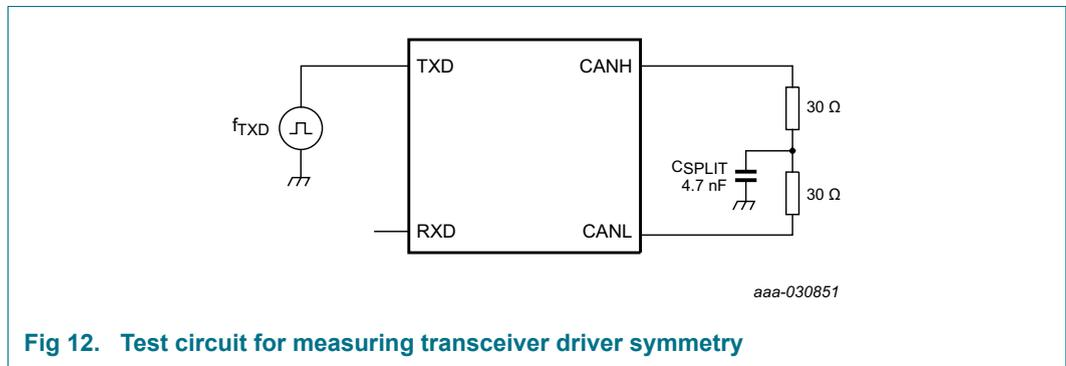

Fig 12. Test circuit for measuring transceiver driver symmetry
- [4] The test circuit used to measure the bus output voltage symmetry (which includes  $C_{SPLIT}$ ) is shown in Figure 12.